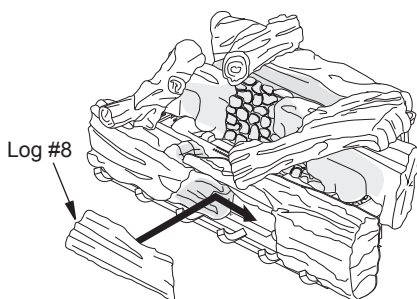

Figure 24 - Control Cover Log (Log #8) Placement
6. Slide control cover log (log #8) into place between front logs #3 and #4 (see Figure 24).